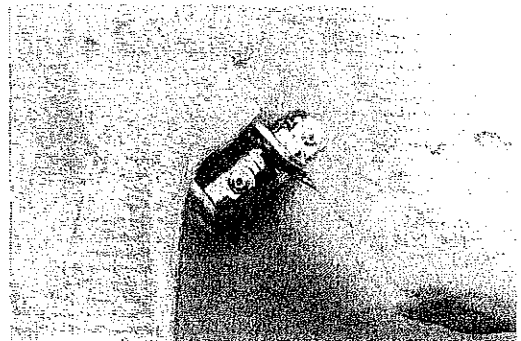

Fig. 2A
3. Place the first stage on the repair bench, situated with the yoke screw(1) facing farthest away, vertically. Holding the yoke(3) firmly in place, use a genuine Oceanic Body Spanner to slightly loosen the piston cap(36) from the main body(28) in a counter clockwise direction by exerting opposing downward pressures (See fig. 2A.). DO NOT loosen beyond 1/4 turn.